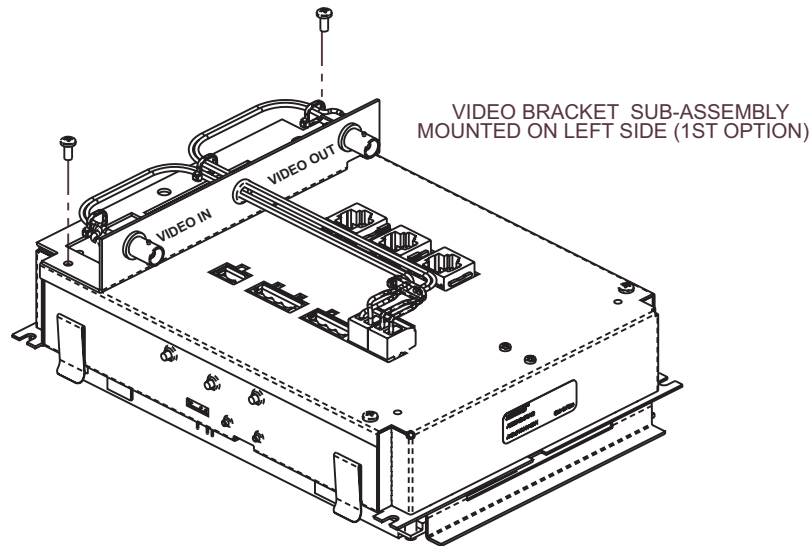

Figure 61 – Video Bracket Sub-Assembly
1. Attach the **Video Bracket Sub-Assembly** to the **SPLCD64V Rear Panel** as shown in **Figure 61**.